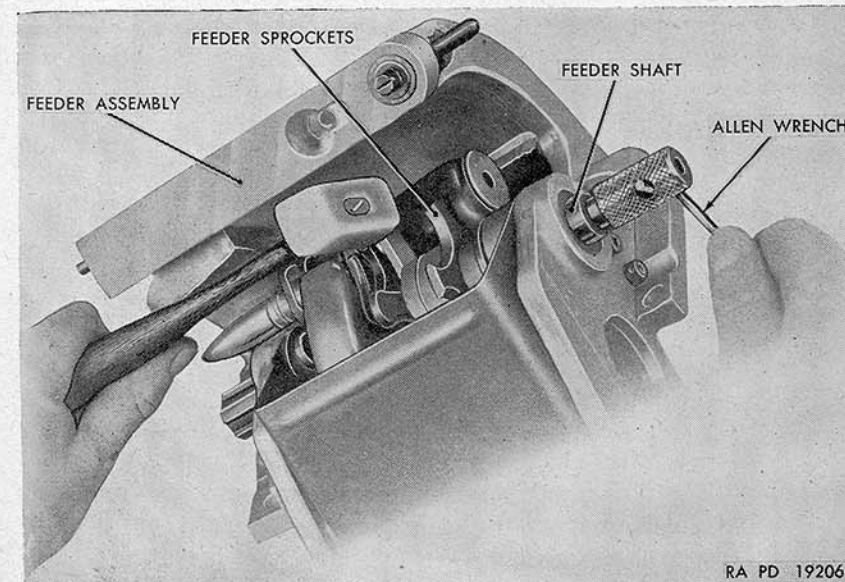

Figure 24. Unloading ammunition belt from feeder assembly—right-hand feed.
e. Insert some suitable object such as a drift or Allen wrench through the hole at the rear of the feeder shaft (fig. 24). Apply pressure by rotating the shaft clockwise (looking from rear). This operation applies to a right-hand feed.